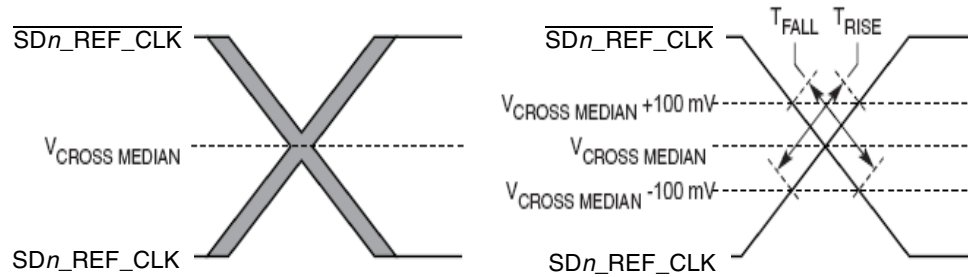

Figure 67. Single-Ended Measurement Points for Rise and Fall Time Matching
4. Matching applies to rising edge rate for SDn_REF_CLK and falling edge rate for $\overline{\text{SDn_REF_CLK}}$. It is measured using a 200 mV window centered on the median cross point where SDn_REF_CLK rising meets $\overline{\text{SDn_REF_CLK}}$ falling. The median cross point is used to calculate the voltage thresholds the oscilloscope is to use for the edge rate calculations. The Rise Edge Rate of SDn_REF_CLK should be compared to the Fall Edge Rate of SDn_REF_CLK, the maximum allowed difference should not exceed 20% of the slowest edge rate. See Figure 67.